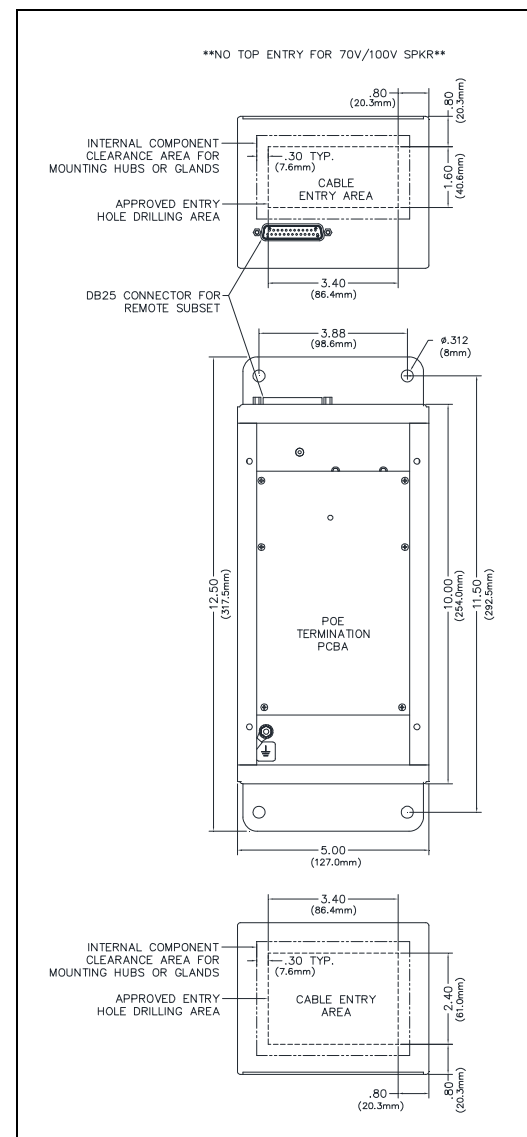

Figure 2. Suggested Wire Entry Locations
1. Mount the enclosure using the four 0.312-inch (8 mm) diameter holes located on the mounting flanges with ¼-inch (M6) hardware (see Figure 2).
3. Drill or punch entry openings in the rear section of the enclosure (see Figure 2).
SP2 stations provide terminal blocks, on the termination PCBA, located in the rear enclosure, for field wiring the speaker and RTU connections. The main PCBA, mounted to the back of the front panel, provides a pluggable terminal block for the 600-ohm audio connection. The PoE interface PCBA, mounted on top of the main PCBA, provides a pluggable terminal block for the PoE connection (see Figure 2).
2. Secure it to the ground terminal located in the lower left corner at the back of the rear enclosure (see Figure 2).